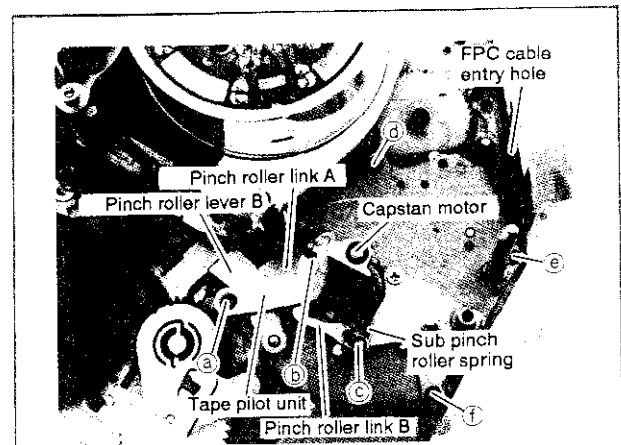
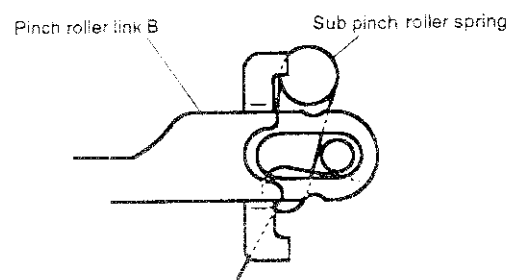

Fig. 3-14-1
Fig. 3-14-2
- ① Pass the FPC cable of the capstan motor through the FPC entry hole in the main plate (Fig. 3-14-1) and under the pinch roller lever B; and then mount the capstan motor on the main plate.
- ② Secure the capstan motor with screws ⑥, ⑦ and ⑧.
- ③ Attach the sync belt.
- ④ While slightly lifting up the pinch roller lever B, insert the pin of the pinch roller link A into the hole of the pinch roller lever B. Mount the pinch roller links A and B.
- ⑤ Referring to Fig. 3-14-2, attach the sub pinch roller spring to the pinch roller link B. Secure the link B with the washer ⑤ shown in Fig. 3-14-1.
- ⑥ Secure the tape pilot unit with screws ③ and ④. Tighten screw ④ first.
- ⑦ Attach the takeup guide arm.
- ⑧ Attach the lock arm spring and lock lever T-B.
- ⑨ Attach all the components described in para. 4-11 (Slant T replacement).
- ⑩ Attach all the components described in para. 4-10-1 (Pinch roller assembly replacement).
- ⑪ Mount the A/C head assembly.
- ⑫ Attach all the components described in para. 4-6 (Reel gear replacement).
- ⑬ Mount the cassette housing.